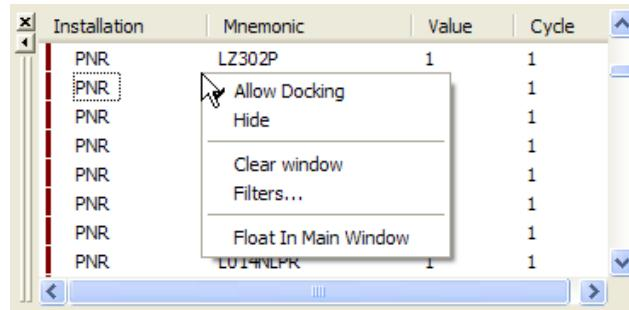

Figure 4.31 Mnemonic Event Monitor right-click menu
- Right-click anywhere in the Mnemonic Event Monitor window to open the pop-up menu (figure 4.31).
- Right-click anywhere in the Mnemonic Event Viewer window to open the pop-up menu (figure 4.31).